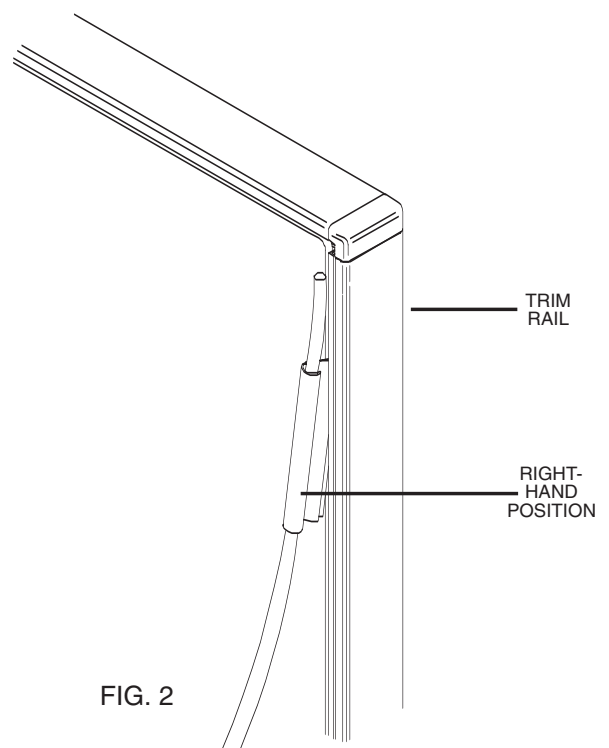

FIG. 2
4. Press the panel cord management extrusion into the slot between the fabric core and the panel trim rail (Figure 2). Press into the slot, starting at the top and working your way down.